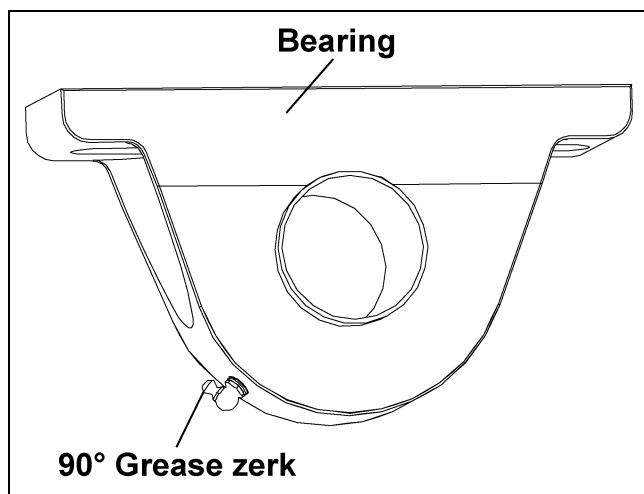

Figure 5Q
- Replace standard grease zerks with 90° grease zerks on both bearings. Make sure the 90° grease zerk is turned as shown in Figure 5Q, so the zerks are accessible from the center of the tractor drive stand.
- Attach Bottom Chain Guard Weldment to Tractor Drive Stand using 3/8" x 1-1/4" HHCS bolts, 3/8" split lock washers, and 3/8" hex nuts. (See Figure 5Q on Page 34.)